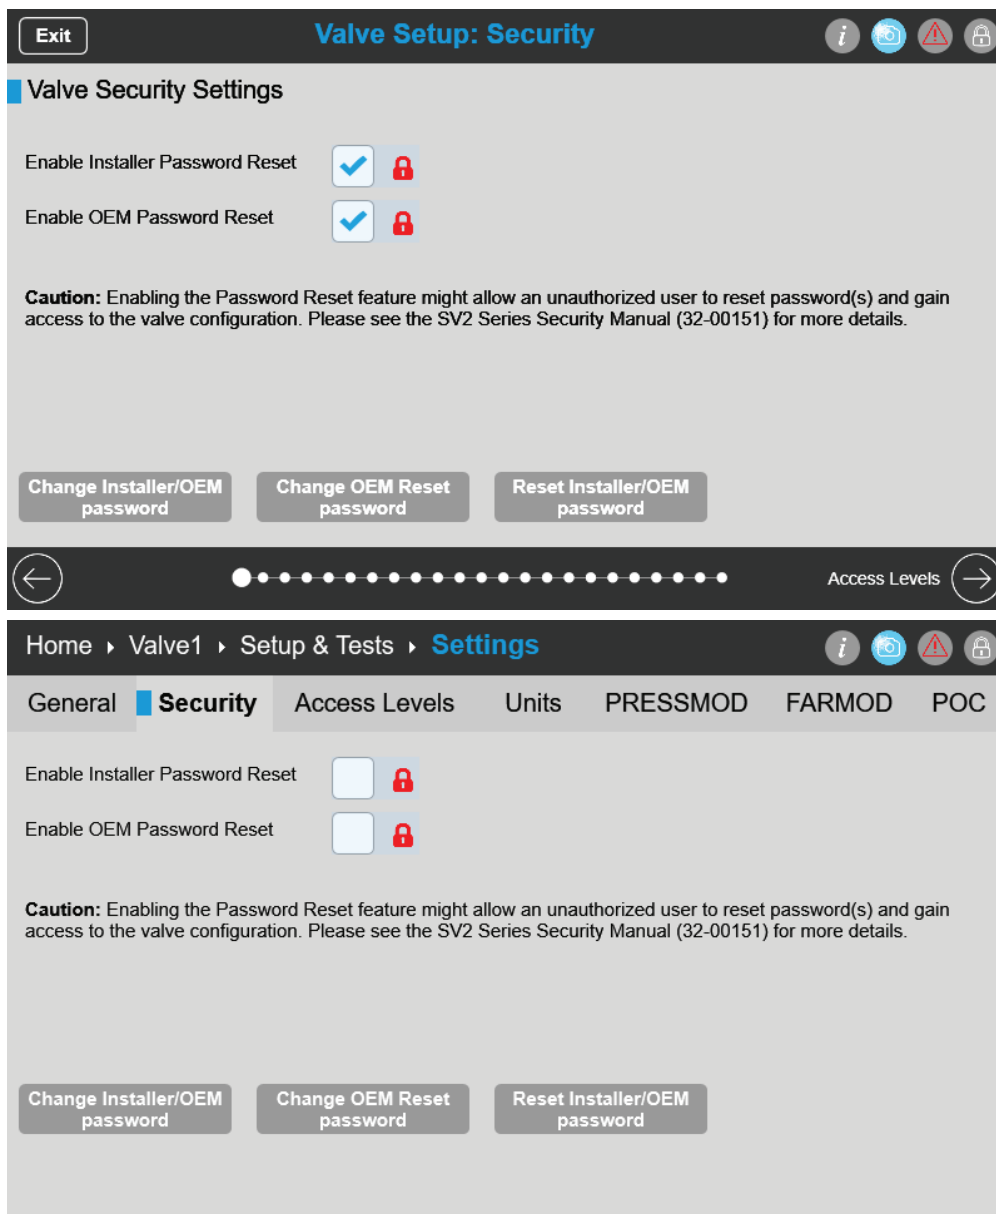
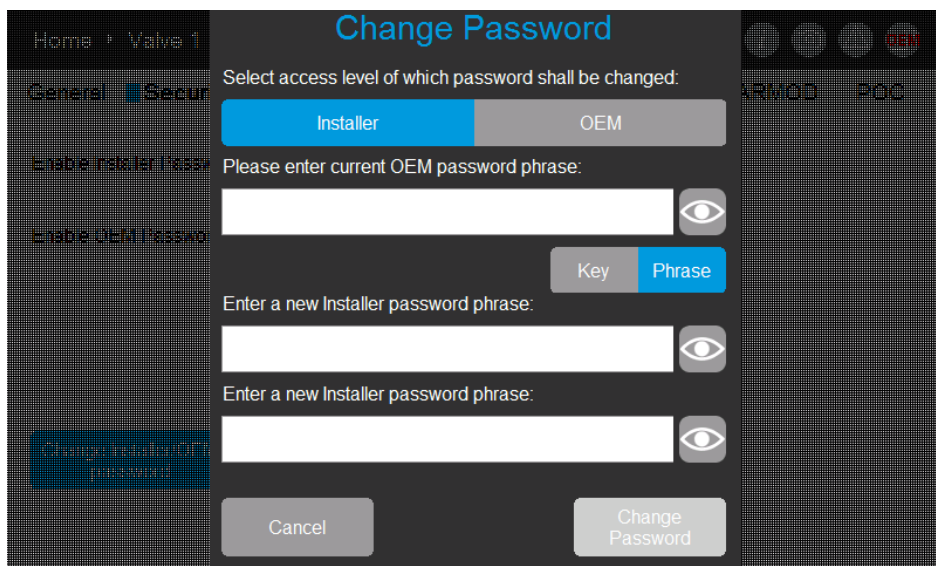
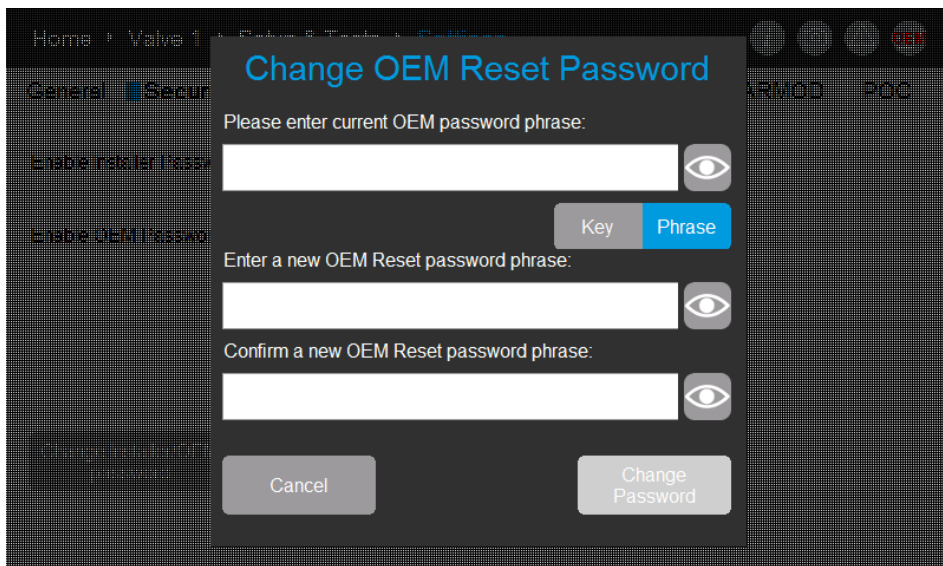

Fig. 70: Security page for passwords enable/disable, entry, change or reset.
Fig. 76: Change Installer password as OEM dialog box.
Fig. 83: Change OEM Reset Password dialog box.
- Allows OEM to enable/disable the OEM and Installer Password Reset features. Refer to Fig. 70.
- OEM chooses whether to enable/disable this action on the Security page. Refer to Fig. 70.
- The password assignments can be accessed via the Security page during the guided setup sequence or via the Setup & Tests --> Settings --> Security menus. Refer to Fig. 70.
The OEM can choose to enable or disable the OEM and Installer password reset functions on the Security page. Refer to Fig. 70.
The OEM will need to configure their main password and their reset password if the 'Enable OEM Password Reset' box is checked on the Security page (refer to Fig. 70). Both passwords should be kept in a secure, but accessible location.
7. It is recommended to select Yes on the Password Changed dialog box, which will bring the user back to the Security page (refer to Fig. 70).
8. Log in using the newly created OEM password by selecting the padlock symbol  in the upper right hand corner of the Security page. Refer to Fig. 70.
1. Log in using the OEM password. The OEM can login by selecting the padlock symbol  in the upper right corner on the Security page. Refer to Fig. 70.
2. Select Change Installer/OEM password button. Refer to Fig. 70. This will open the Change Password dialog box. Refer to Fig. 76.
1. Log in using the Installer password. The Installer can login by selecting the padlock symbol  in the upper right corner on the Security page. Refer to Fig. 70.
8. It is recommended to select Yes on the Password Changed dialog box, which will bring the user back to the Security page (refer to Fig. 70).
9. Log in using the newly created Installer password by selecting the padlock symbol  in the upper right hand corner of the Security page. Refer to Fig. 70.
If enabled, the reset password allows the OEM to reset the current OEM main password back to the Honeywell factory default value. Typically, this would only be performed when the current OEM main password is lost. Once the password is reset, the OEM can then log in and assign a new main password. The OEM assigned reset password remains unchanged, but the OEM can choose to change it at any time on the Security page as desired by selecting the 'Change OEM Reset Password' button. Refer to Fig. 70.
- **The OEM can choose to enable or disable the OEM (and Installer) password reset functions. Refer to Fig. 70.**
1. Log in as the OEM using the main password. Select the padlock symbol  in the upper right corner on the Security page. Refer to Fig. 70.
2. Click on Change OEM Reset password on the Security page. Refer to Fig. 70. This will open the Change OEM Reset Password dialog box. Refer to Fig. 83.